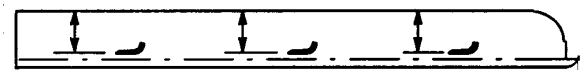

Figure 11
2. Rotate the blade until the ends face forward and backward. Measure from inside of the cutting unit to the cutting edge at front of blade (Fig. 11), and remember this dimension.